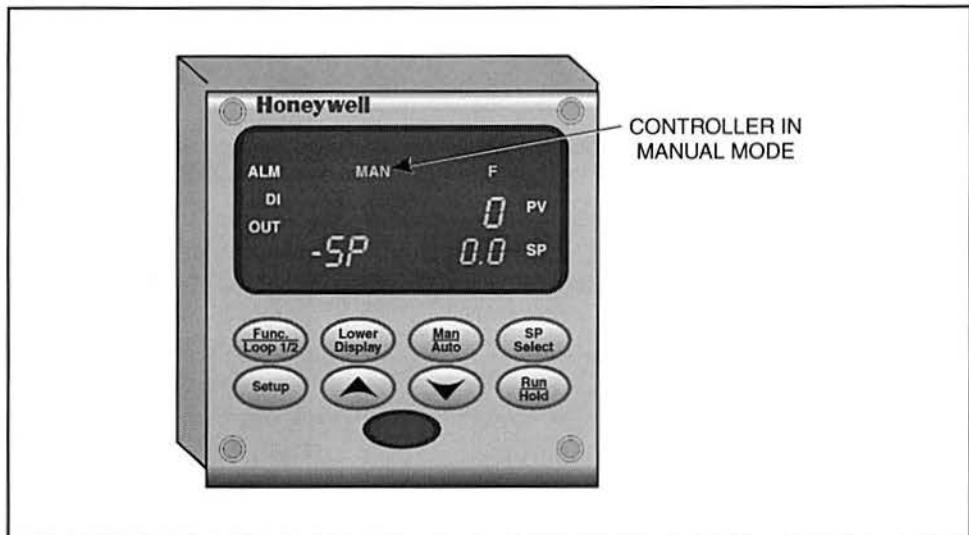

Figure 49. Manual/Auto Key on a Loop Controller
- 6. If the controller is not in the manual mode, press the **Man/Auto** key to place the controller in the manual mode, as figure 49 shows.